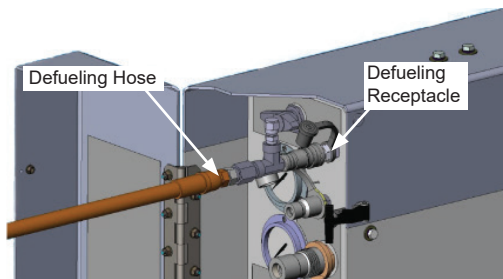

Figure 3: Defueling hose attached to defueling receptacle on supplying vehicle.
6. Connect the hose's defueling nozzle to the defueling receptacle of the supplying vehicle (Figure 3) by pulling back on the quick connect collar on the hose and pushing it onto the vehicle's coupler.